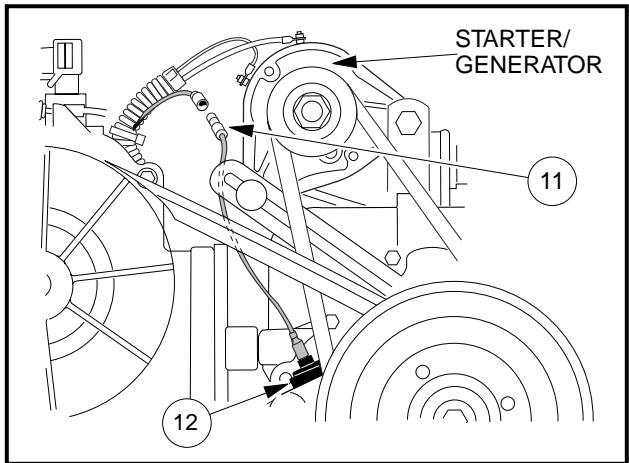

Figure 13-42 Oil Level Sensor Wire
1. Remove yellow jumper wire (11) from cord connector (12) (**Figure 13-42, Page 13-22**).